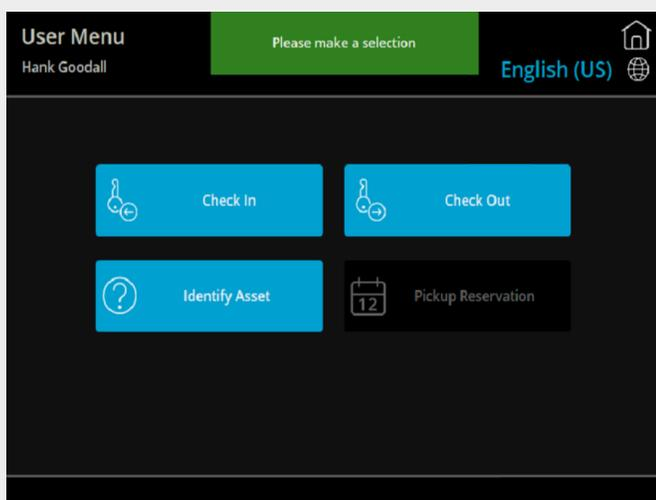
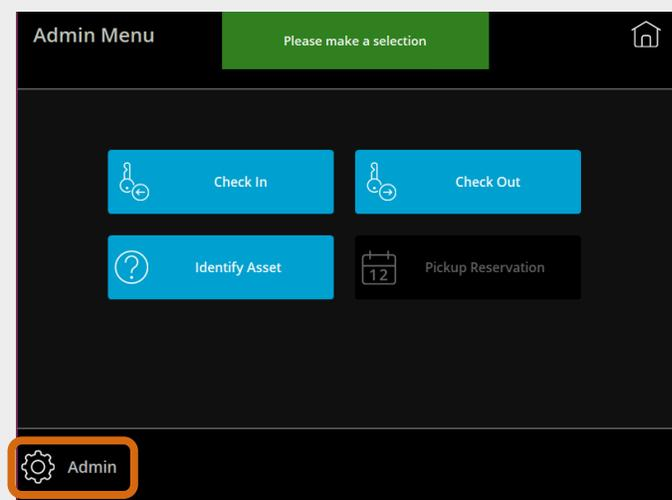

Fig. 18 – User Menu
Fig. 19 – Admin Menu with the Admin button indicated
After you log in, you are brought to the User Menu or the Admin Menu (shown in Fig. 18 and Fig. 19), depending on your assigned role. The User and Admin menus have similar layouts. The layouts are as follows:
Press **Admin**, indicated in Fig. 19, to access the Settings screen and use features available to admins only, including the following:
2. Press **Admin** at the bottom left of the screen, as shown in Fig. 19.
2. Press **Admin**, as shown in Fig. 19.